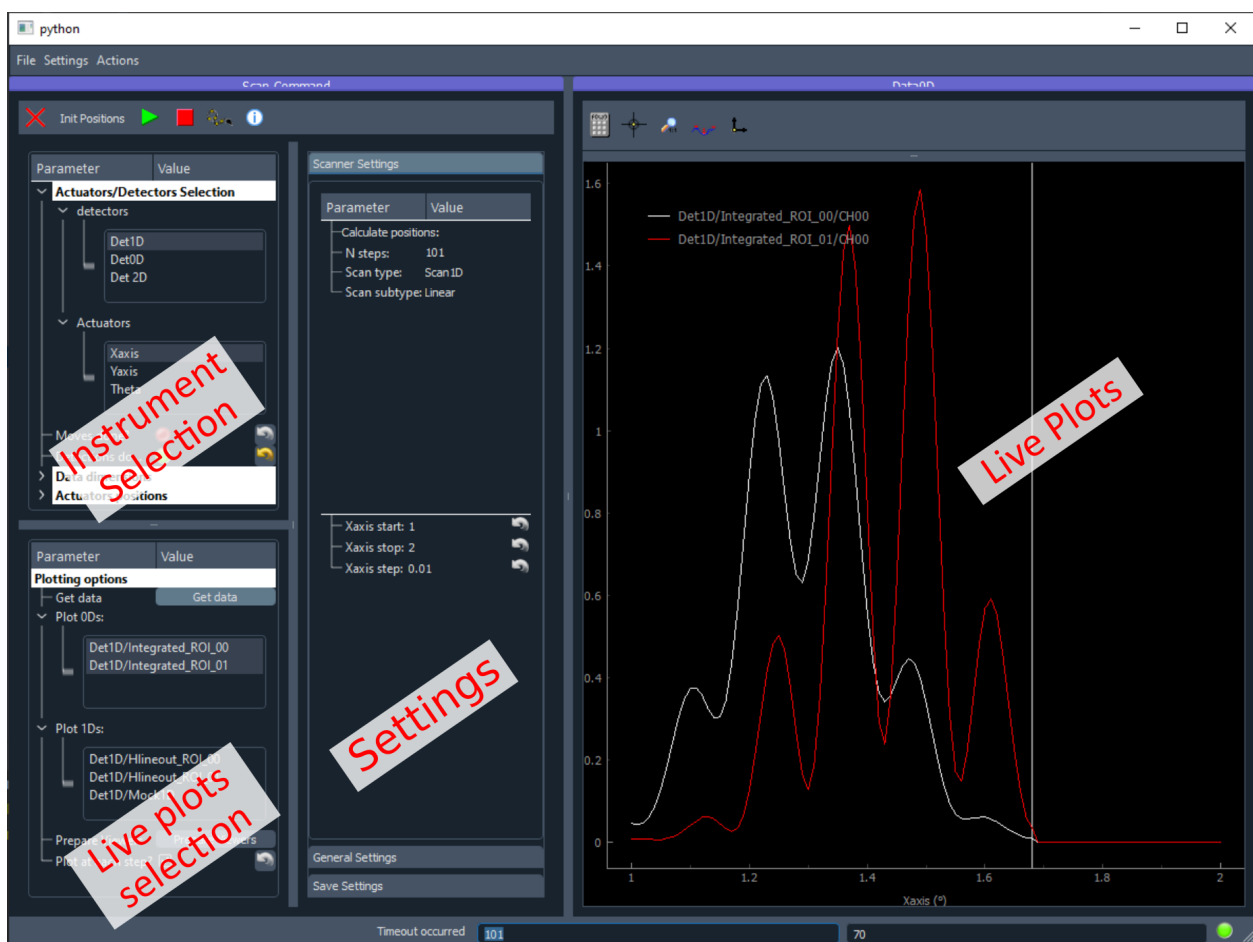

Fig. 7.24: Main DAQ_Scan user interface.
The dashboard gives you full control for manual adjustments (using the UI) of each actuator, checking their impact on live data from the detectors. Once all is set, one can move to an automated scan using the main control window of the DAQ_Scan, see Fig. 7.24.
Given these constraints, one live plot panel will be created by selected data to be rendered with some specificities. One of these is that by default, all 0D data will be grouped on a single viewer panel, as shown on Fig. 7.24 (this can be changed using the *General Settings*)
- exported 0D datas will be displayed on a Viewer1D panel as a line as a function of the actuator *position*, see Fig. 7.24.
The settings tree as shown on Fig. 7.24 is actually divided in a few subtrees that contain everything needed to define a given scan, save data and plot live information.